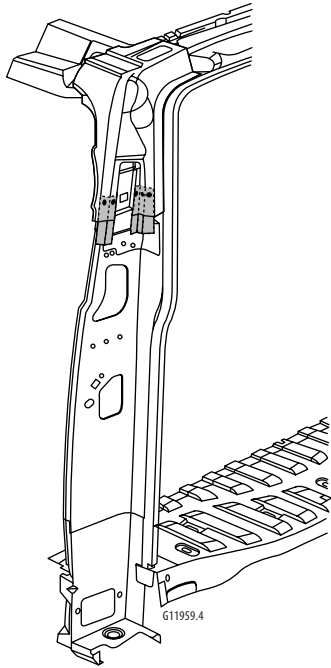

Figure 9-4:
1. Cut a 100mm (4 inch) backing plate from the unused portion of the service part. Trim the backing plate as necessary to fit behind the sectioning joint. Drill 8mm ($\frac{5}{16}$ inch) plug weld holes in the original part 25mm (1 inch) from the cut edge. Fit the backing plate halfway into the sectioning joint, clamp and plug weld to the vehicle (figure 9-4).